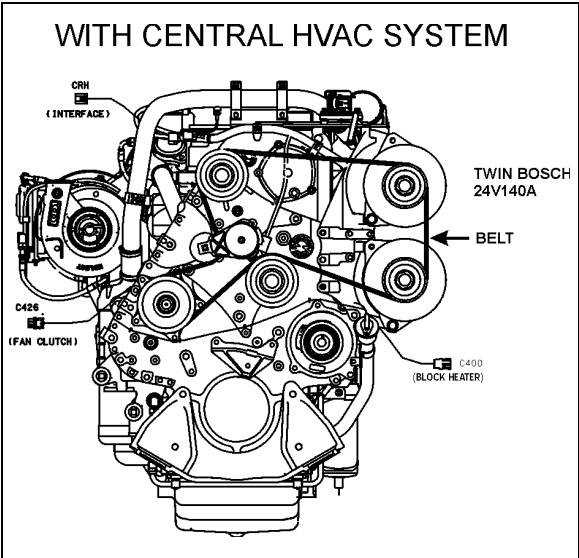
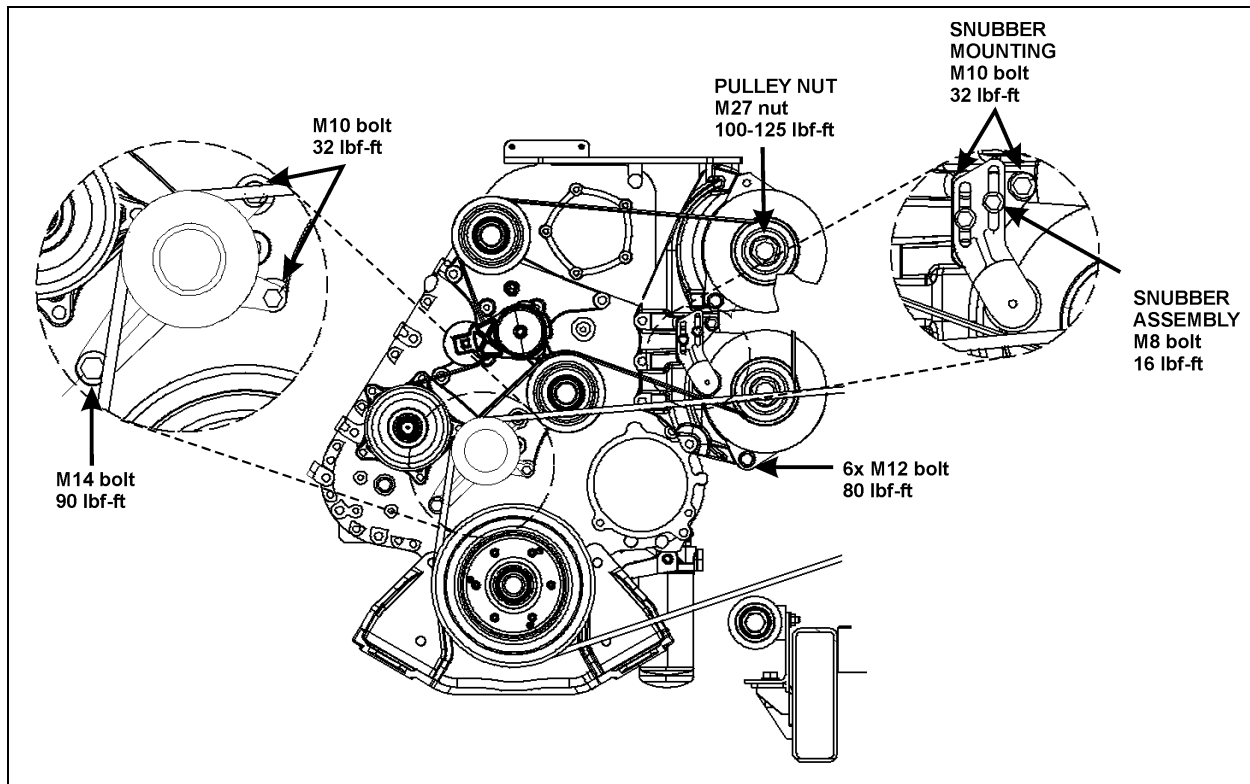

FIGURE 17: ALTERNATOR DRIVE BELT 01180
FIGURE 20: ALTERNATORS AND ACCESSORIES MOUNTING TORQUES (H3 COACH SHOWN)
If the alternators needed to be removed, reinstall as follows. Refer to figure 17 up to figure 20 for installation and tightening specifications:
4. Install the snubber bracket (fig. 20) using three flanged bolts. Do not tighten the adjustment bolts on the snubber until after final tightening;
5. Install the A/C compressor belt idler pulley (fig. 20) as shown. A stud inserts into one of the mounting holes of the pulley assembly. Fasten this one using a nut and bolts for the other two.